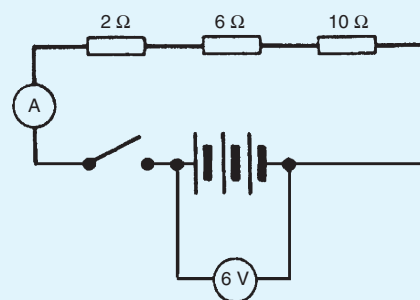

Figure 5.57
6. With the switch in Fig. 5.57 closed the ammeter reading will indicate:
7. A 6Ω resistor is connected in parallel with the three resistors of Fig. 5.57. With the switch closed the ammeter reading will indicate: